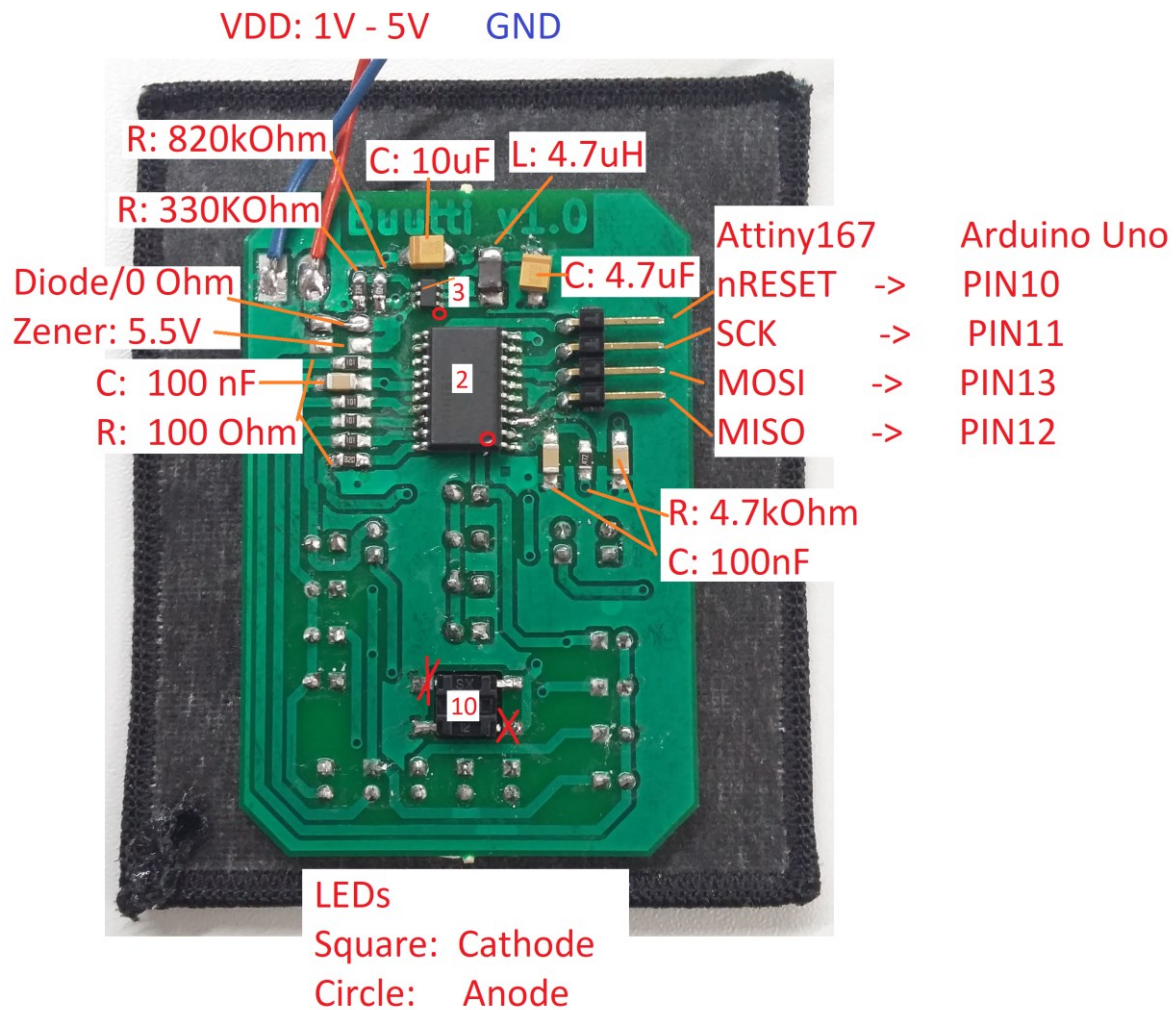

Figure 2. Component placing and fixes for push button
9. Cut two legs from push button as shown in figure 2. (Only for V1.0)
- Wire Attiny167 to your programmer as stated in figure 2.